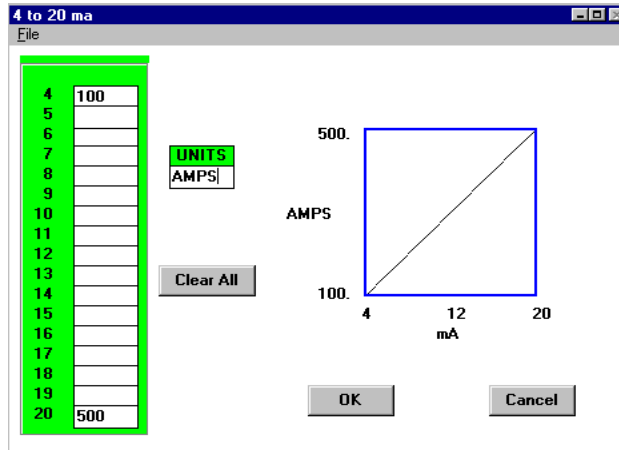

Fig.1: 4 to 20 mA function window
To download data to the computer, plug the RS232 cable into the Smart Chart II jack, labeled PC. From the Smart Chart II software open the *Function* window and select *4 to 20 mA*. Set 4 mA to 100, 20 mA to 500 and units to AMPS, see figure 1. From the main menu select *Download*. The data is downloaded from the Smart Chart II into the computer, however, the data is not saved in the computer until you save it. To save the data go to *File* and then select *Save as TXT*. Enter the new file name and the file location and then click on *OK* to save the data.
3. Go to *Function* on the main menu bar and select *4 to 20 mA*. Set 4 mA to 100, 20 mA to 500 and units to AMPS, see figure 1.